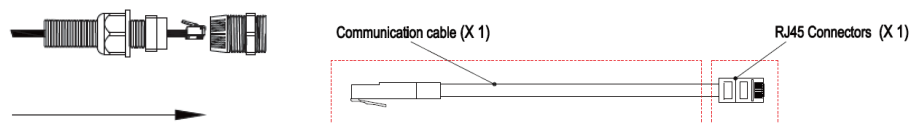

Figure 29 Connection of the Communication Cables on the Inverter Side
Step 10 Please pass the cable through the waterproof cap, the sealing ring and the joint on the baffle and then connect with an RJ45 connector, see Figure 29.